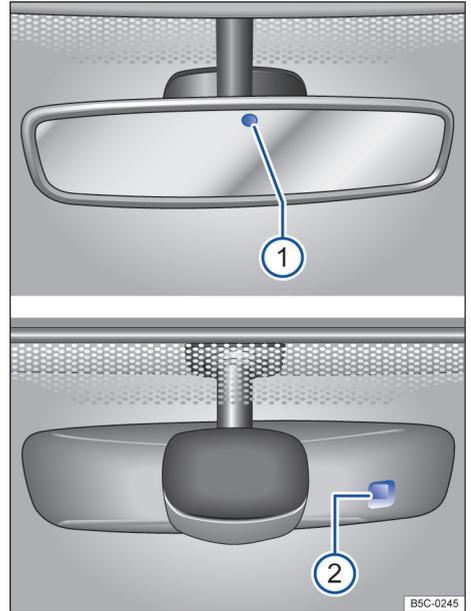

Fig. 70 On the windscreen: automatic anti-dazzle interior mirror.
The possible causes for damages and misinterpretations in the *sensitivity surface area* → Fig. 70 of the rain sensor are among others the following:
When the ignition is turned on the sensors measure the light incidence. There are 2 sensors in the interior mirror, one that measures the incidence of light from *the front* → Fig. 70① and the other the light incidence from *behind* ②. According to the measured results the internal mirror is automatically darkened.